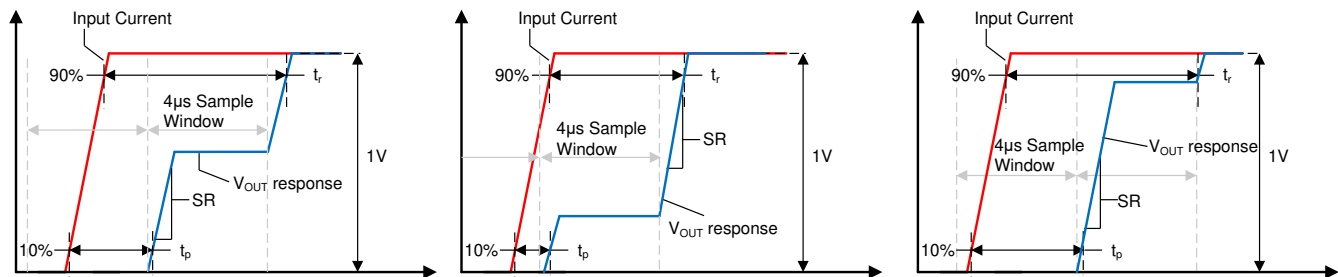

FIG 8-3. Small Current Input Step Transient Response
Slew rate (SR) is defined as the VOUT rate of change for a single integration step's output transition, as shown in 图 8-3. Because the device often requires two sampling windows to reach a full 90% settling of its final value, this slew rate is not equal to the 10%-90% transition time for the full output swing.
Propagation delay is the time period between the input current waveform reaching 10% of its final value and  $V_{OUT}$  reaching 10% of its final value. This propagation delay is heavily dependent upon the alignment of the input current step and the sampling period of the TMCS1101, as shown for several different sampling window cases in FIG 8-3.
Response time is the time period between the input current reaching 90% of its final value and the output reaching 90% of its final value, for an input current step sufficient to cause a 1-V transition on the output. FIG 8-3 shows the response time of the TMCS1101 under three different time cases. Unless a step input occurs directly during the beginning of one sampling interval the response time will include two sampling intervals.